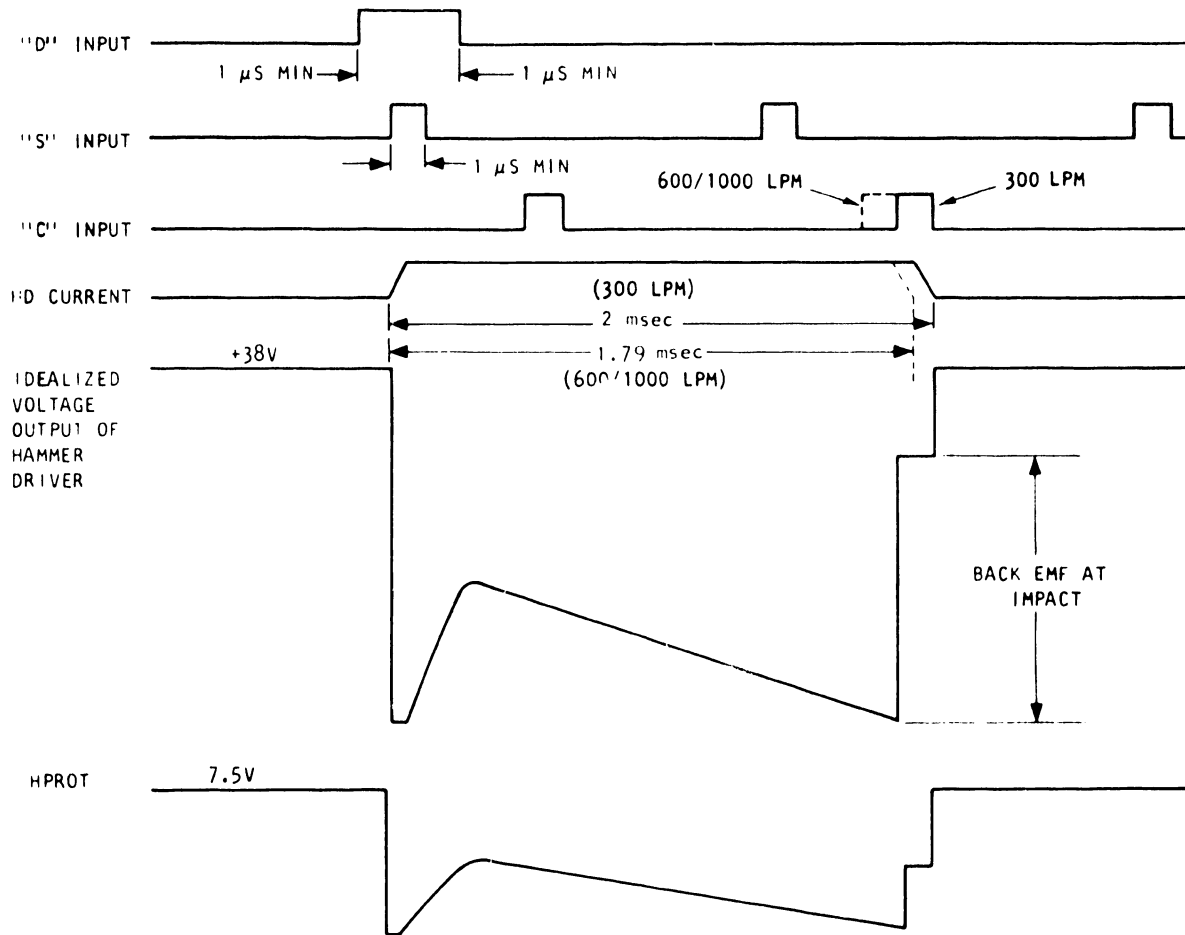
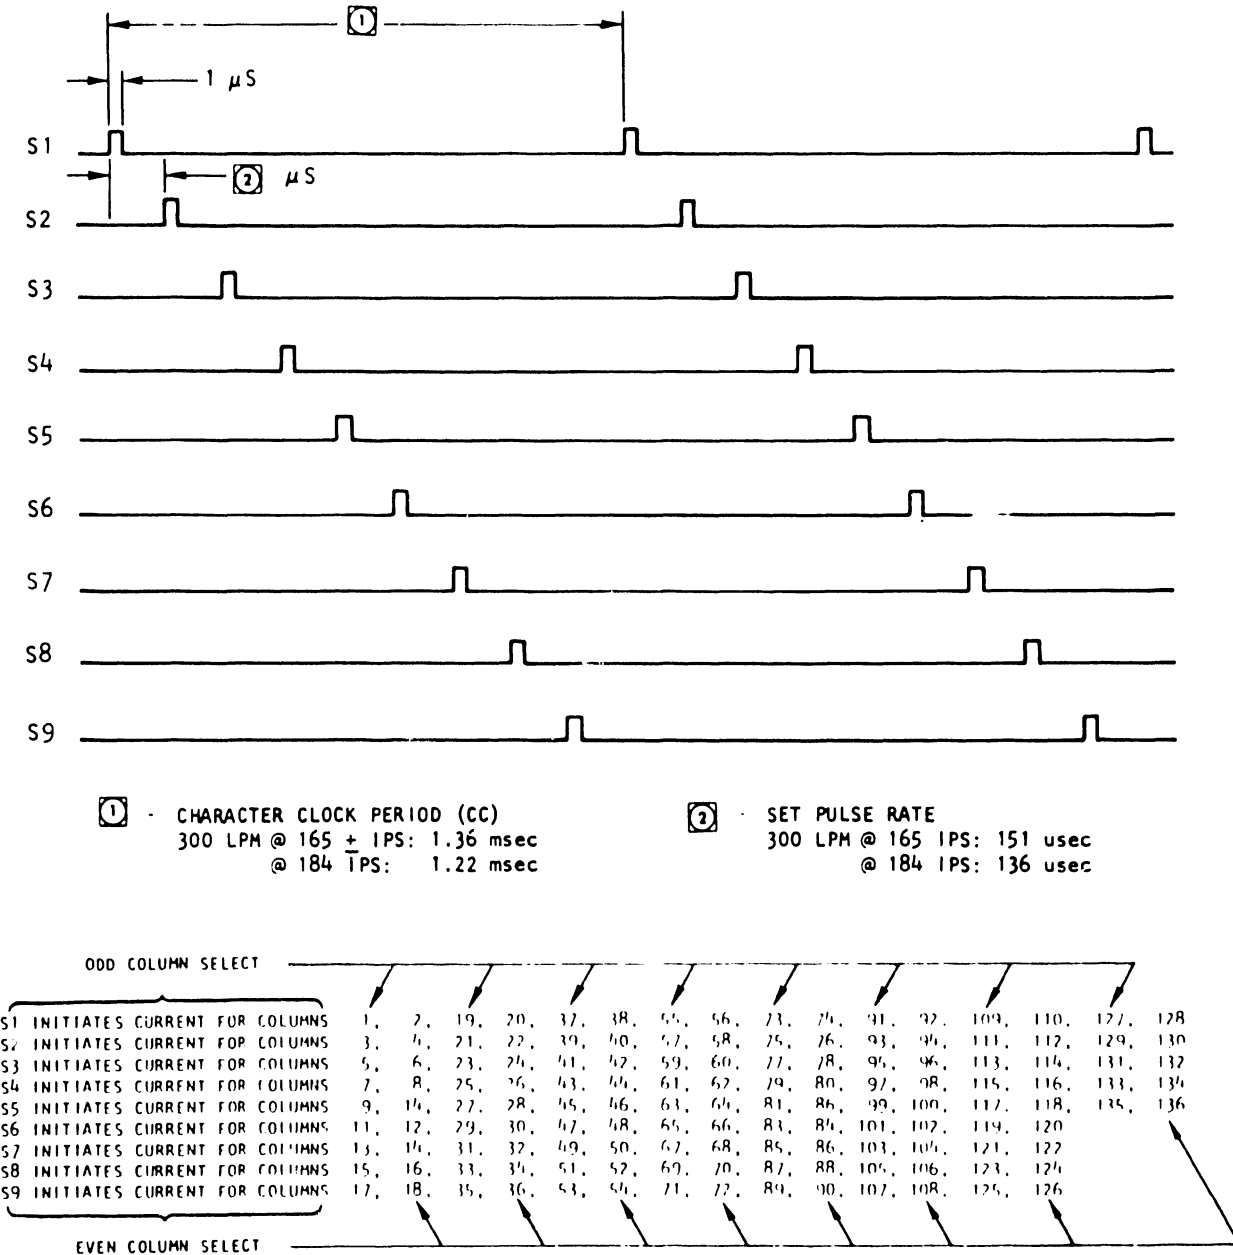

Figure 2-46. Hammer Timing Diagram (Ideal)
Figure 2-47. 300 LPM Set Pulse Timing Diagram
The hammer driver collectors are ORed to turn on transistor Q1 for any hammer that is active to generate the hammer waveform (HWAFO\* or HWAFF\*) signal (see figure 2-46 for the hammer timing diagram). The voltage level when all drivers are off is approximately 7.5V; 4.0V when any driver is on; and 0.5V if a logic fault causes the hammer to overheat and go into thermal shutdown. The HWAFO\* or HWAFF\* signal is monitored by the Timing and Status and the Processor CCAs for a fault condition. HD28V (hammer driver voltage) is disabled if a fault occurs.
The output of set pulse latch U39 goes to the 4-to-10-line decode U38 for generation of the set and the clear pulses to the hammer driver matrix logic. U39 outputs to the hammer flight time header J18 for configuring the inputs to the decoders U35, U36, and U37. See the hammer timing diagram, figure 2-46.
Hammer firing occurs with the coincidence of a character compare between the Processor CCA data RAM and band image PROM and the timing of a hammer trigger (HMRTRG\*) set pulse S1 through S9 (see figure 2-46). The set pulses S1 through S9 are a continuous set of pulses with a minimum width of one microsecond, a period of 1.36 milliseconds (165 IPS) or 1.22 milliseconds (184 IPS), and a delay of 151 microseconds (165 IPS) or 136 microseconds (184 IPS) between two successive pulses (see figure 2-47).
To fire a hammer, the desired hammer drivers data (D) input (a compare of data RAM character and band image PROM character) is enabled high for a minimum of one microsecond before its "S" pulse and dropped to a minimum of one microsecond after the end of the "S" pulse. The hammer driver is turned off on the leading edge of the second "C" pulse. Set pulses S1 through S9 will initiate current to print in the columns as shown in **figure 2-47**.